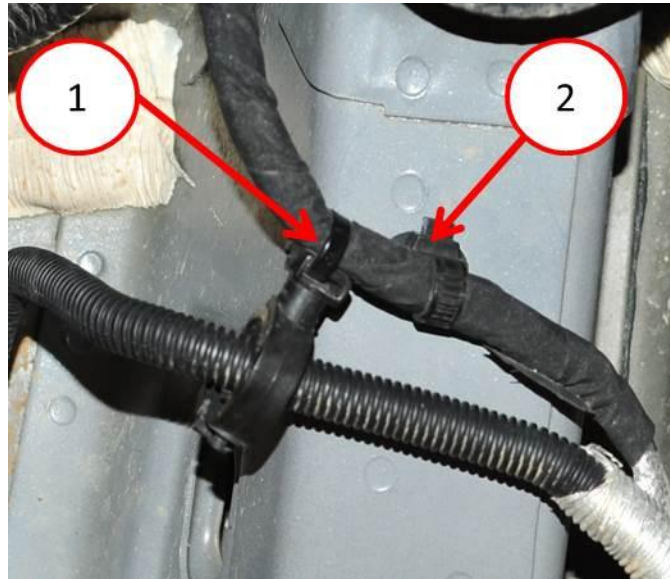

Fig. 3 CUT THE EXISTING RETAINERS
- Carefully cut straps holding DEF injector wire harness to hose (Fig. 3).
- Carefully cut strap holding DEF injector wiring to rail clip and remove clip from hole in the frame (Fig. 3).